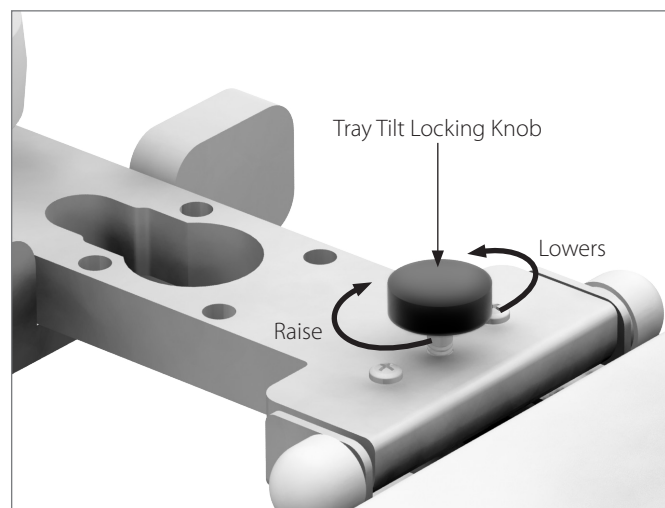

Figure 1
2. To decrease the angle of the keyboard, turn the knob counterclockwise, the keyboard tray should begin lowering on its own. Continue turning the knob until desired angle is achieved (**Figure 1**).